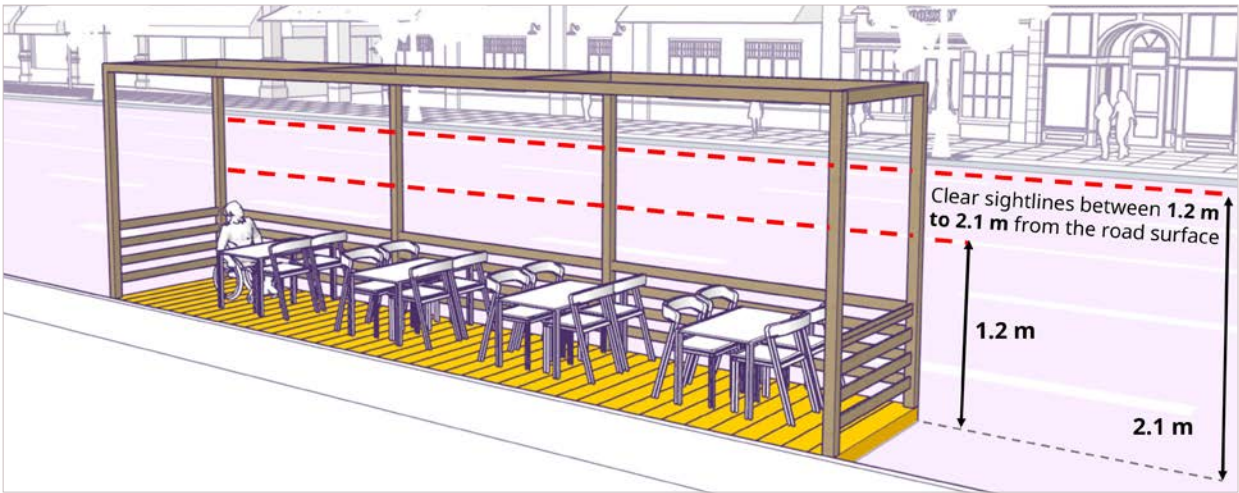

Figure 30: Clear sightlines
- c. Must maintain clear traffic sightlines between **1.2 m** to **2.1 m** from the road surface (see Figure 30).